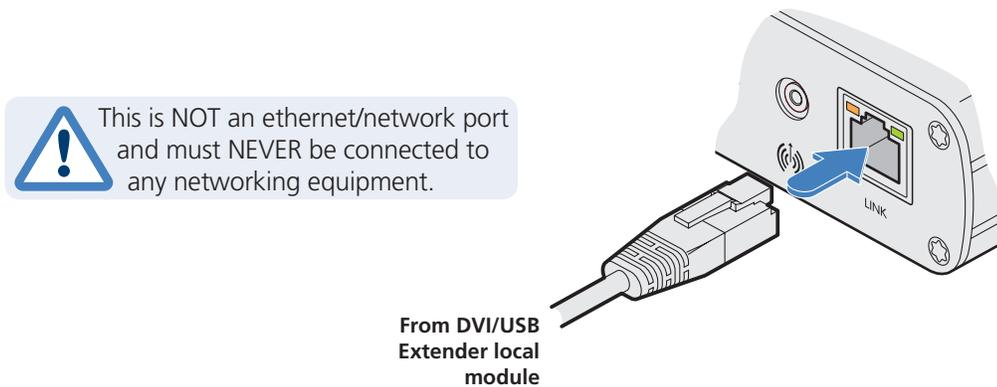

Figure 3-13. Connecting the remote data link on the rear panel.
1. Connect the CATx cable from the local module to the LINK port on the rear panel of the remote module. See Figure 3-13.